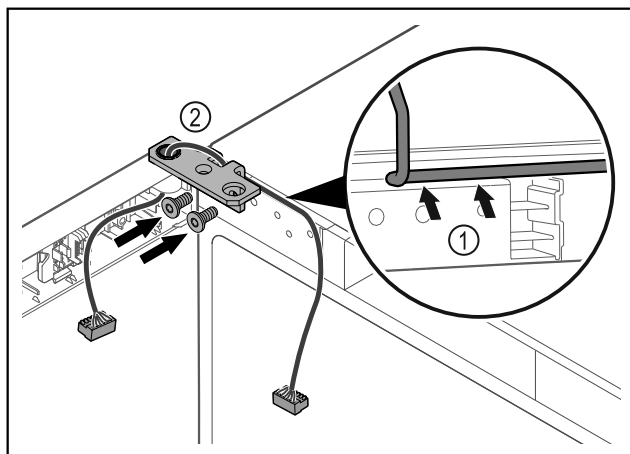

Fig. 36
- Feed the cable through the recess in the hinge and lay it carefully Fig. 36 (1).
- Screw on the hinge Fig. 36 (2).